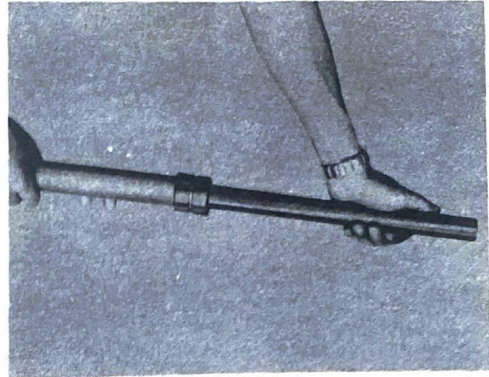

Fig. 5-6-9
- 1) For reassembling the front fork, reverse the order of disassembling. Make sure the inner tube slides in and out smoothly. (Fig. 5-6-9)